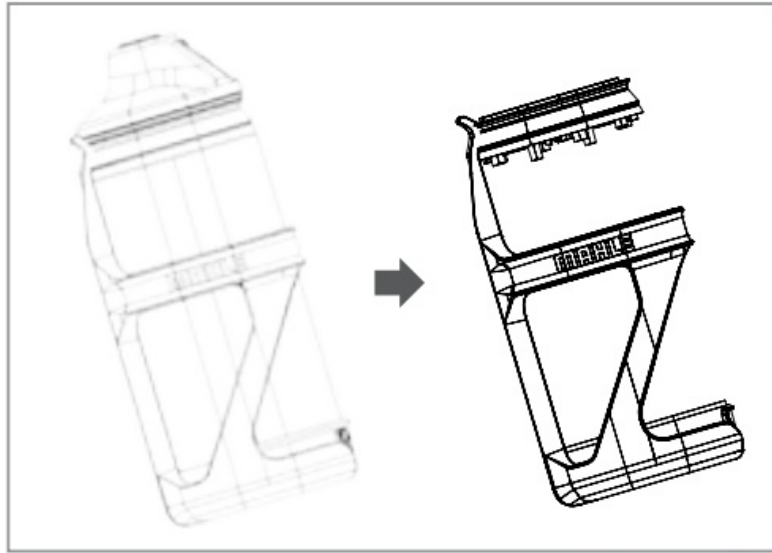

Figure 12
1. Remove the Range Extender battery from the holder (Figure 12).